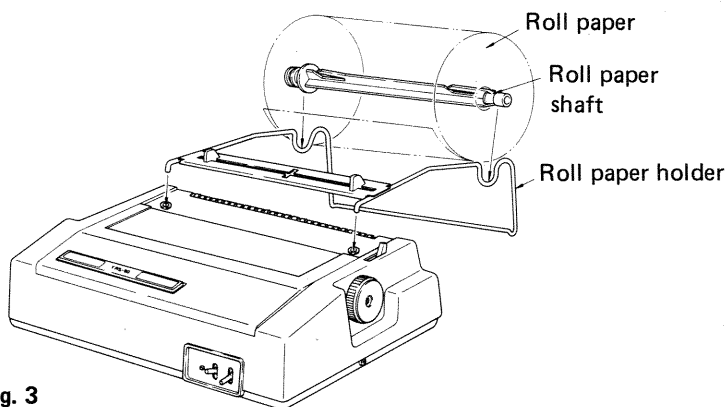

Fig. 3
Installing the Roll Paper Holder (See Figure 3)
3. Insert the Roll Paper Shaft through the standard 1" paper roll core and put the core hub threading through the shaft. Once the shaft is inserted into the roll paper, place the paper/shaft onto the Holder (see Figure 3).